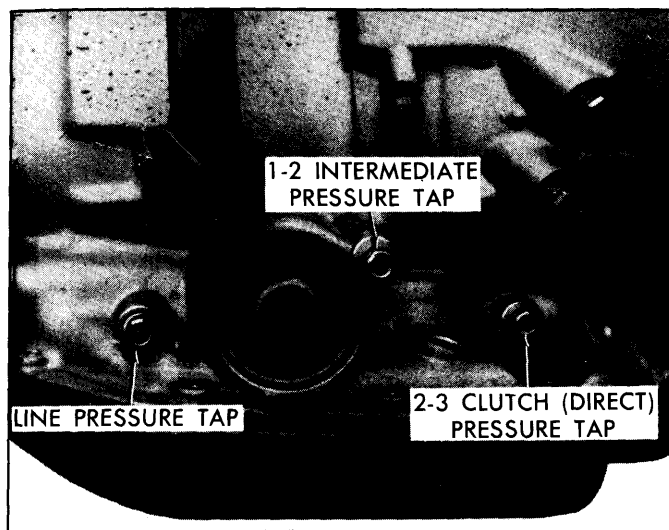

Fig. 7-2—Pressure Tap Locations
While car is stationary, drive wheels blocked with parking brake on, engine speed set to 1200 RPM, transmission oil pressure gauge attached to line pressure tap (Fig. 7-2) and vacuum modulator tube disconnected, transmission line pressure should read 120 in Drive, 120 in L1 or L2 and 245 in Reverse.
1. Install pressure gauge, at line pressure tap location. (Fig. 7-2)